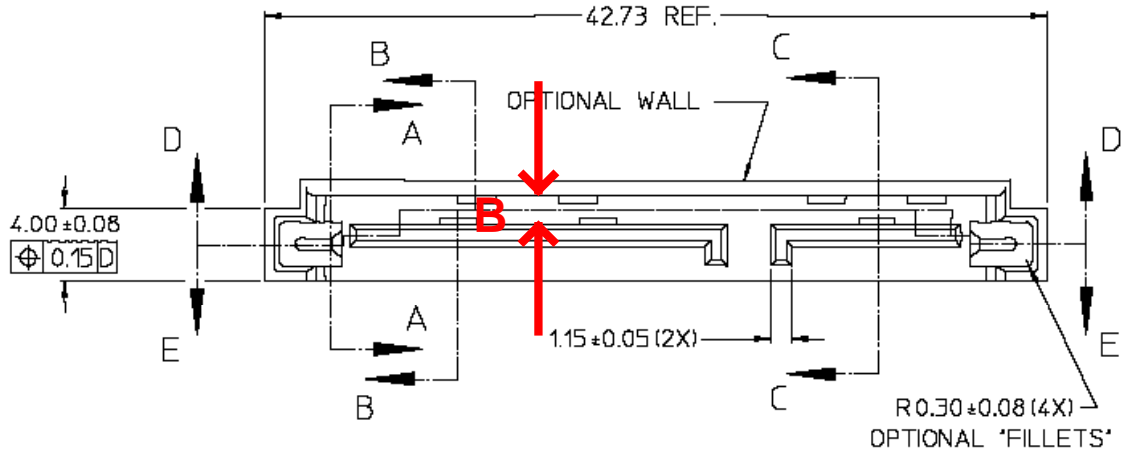

**Figure 25**
1. Using the outside measurement jaws of the calipers measure the thickness of the device plug tongue as shown in Figure 25. Perform a measurement sweep along the length of the connector, not just in one place. This will account for any variations in the connector. Record the worst-case measured value as A.